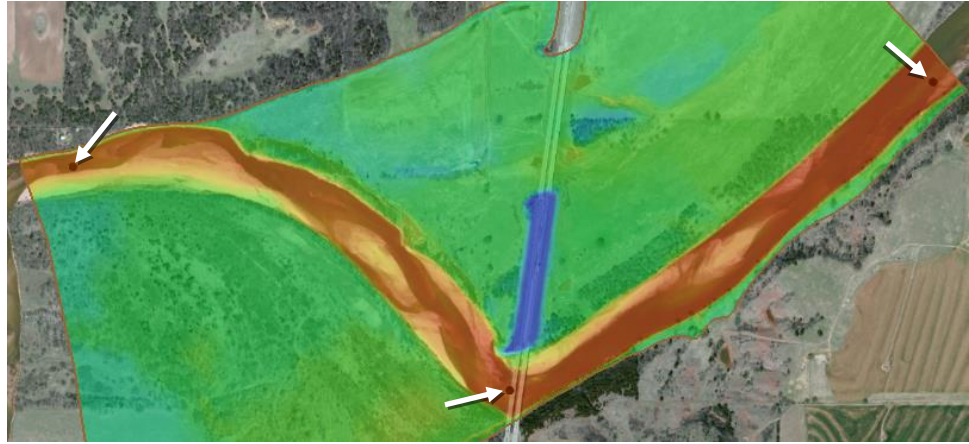

Figure 8 Monitor points at upstream, midway between, and downstream
5. Using the **Create Feature Point** tool, create three monitor points as shown in Figure 8.